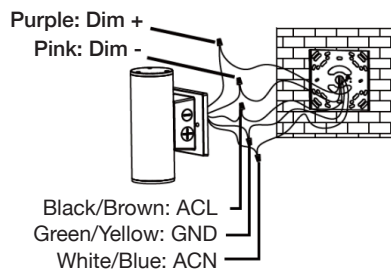

Fig. 1.3
3. Connect the wires (L,N,G) to the power supply. Please cap the dimming cables if not in use (Fig. 1.3).